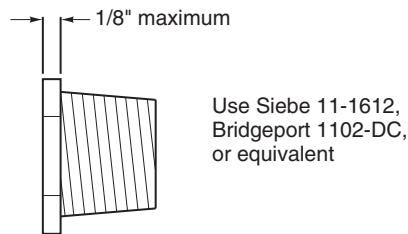
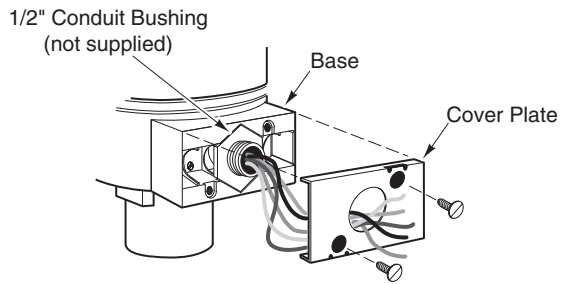

Figure-9 1/2" Conduit Bushing.
Figure-10 Conduit Bushing and Cover Plate Installation.
2. Slip the leads through a standard 1/2" conduit bushing (Figure-9, not supplied) and the knockout hole in the cover plate. Refer to Figure-10.
*Note:* As shown in Figure-10, the hole in the cover plate of the actuator conduit housing is sized to accept both British standard M20 (20 mm) conduit connectors and 20 mm-to-PG16 adaptors for use with DIN PG16 connectors. (Follow the steps for installing the conduit box to the actuator.)